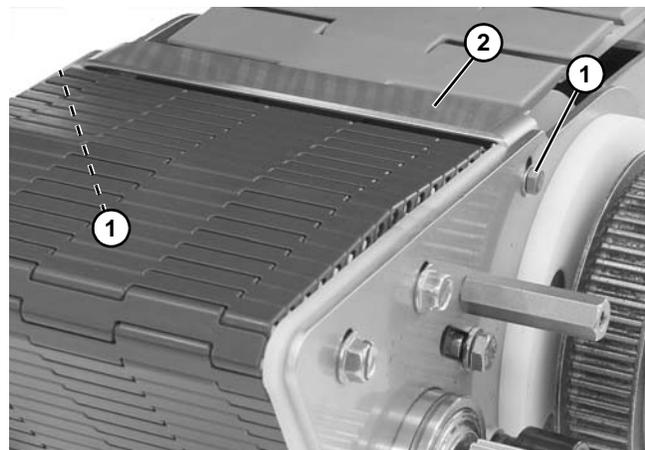

Figure 61
6. Remove two hex head screws (**Figure 61, item 1**) and transfer plate (**Figure 61, item 2**).